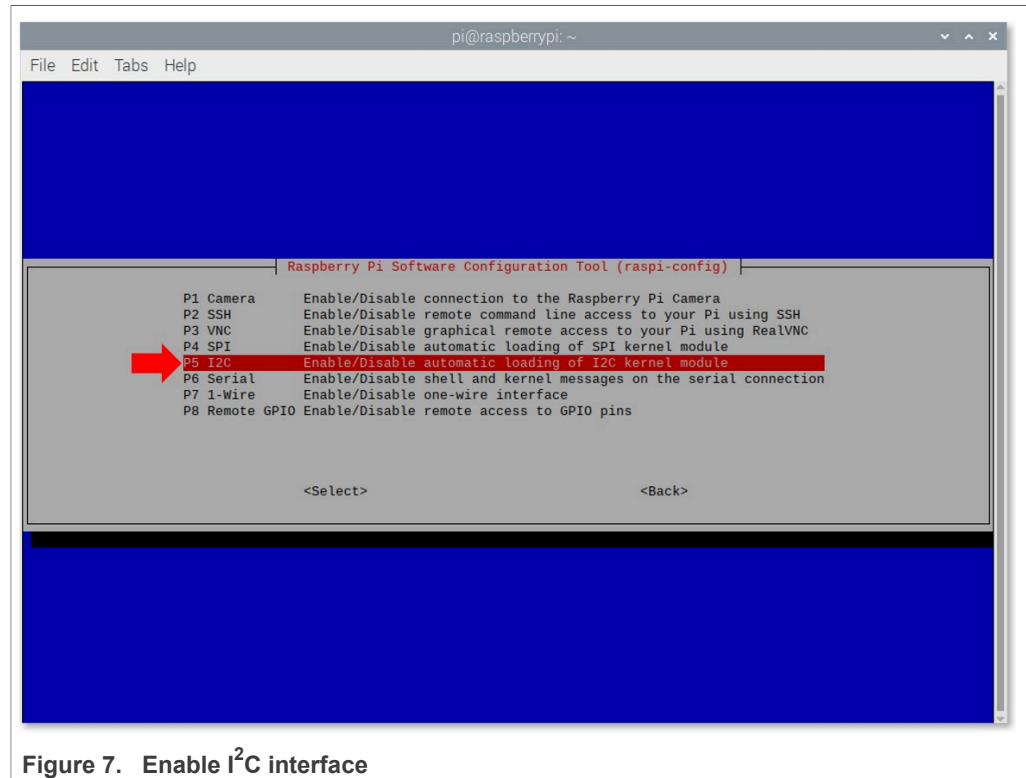

Figure 7. Enable I2C interface
- Use the up and down arrow keys to select the 5th menu option (I2C) and then press Enter, as shown in Figure 7: